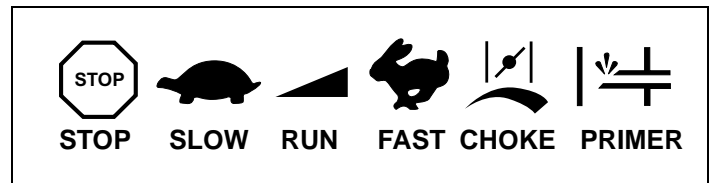

Figure 15. Typical Engine Symbols
3. Move engine speed control to "FAST" position. See Figures 15 thru 17.
7. Move engine speed control to desired speed in "RUN" range. See Figure 15 on page 8. Afterward, continue reading instructions below.